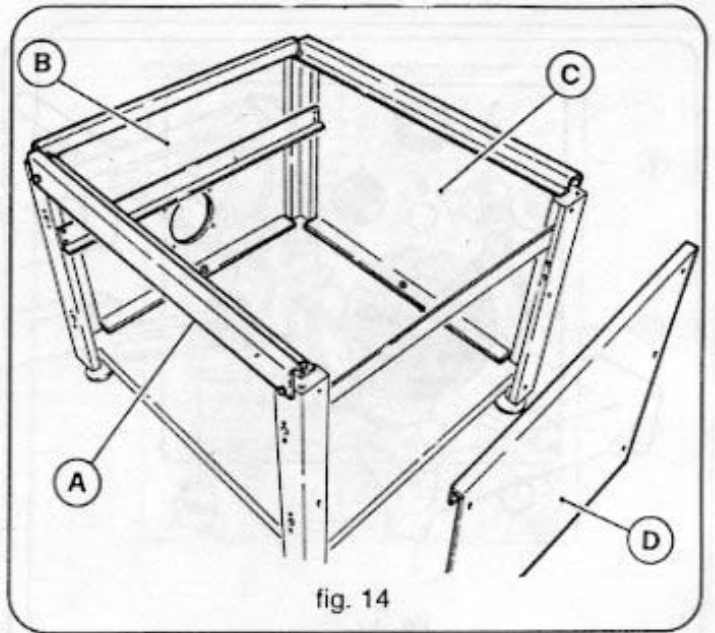

fig. 14
- Arrange the bench as shown in figure 14, and attach the reinforcement support A using 4 screws M6x16.